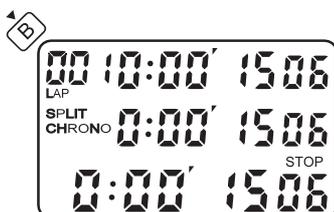

Fig. 3
- Press B to get the 1st LAP time. The LAP time is shown at the top row, the SPLIT time at the middle row and the running total time is shown at the lower row, as shown in Fig.3.